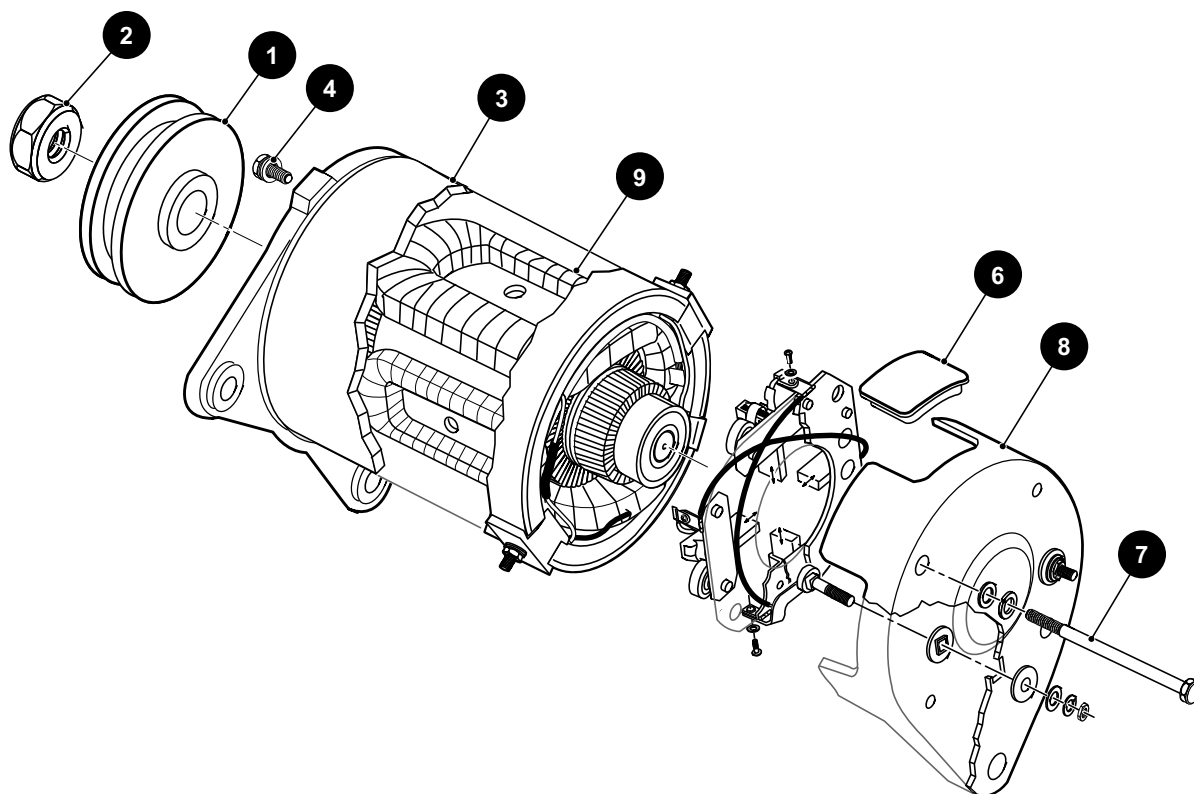

Figure 6 Starter/Generator
Hold the pulley (1) and remove the pulley nut (2). Remove the pulley, screws (4) and front cover (3) (Figure 6).